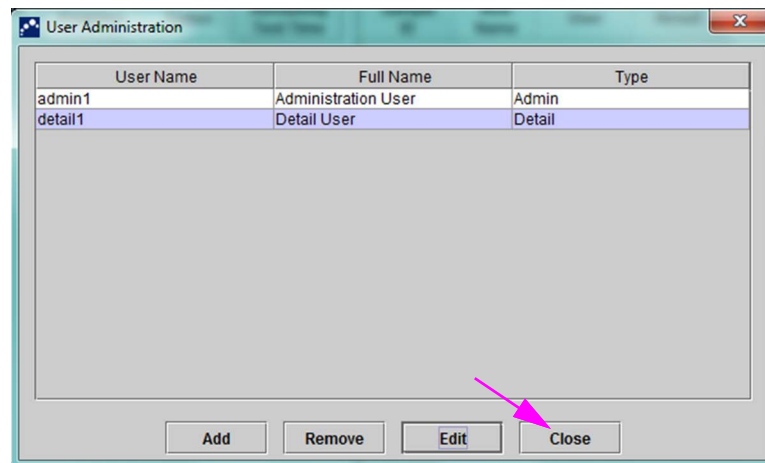

Figure 2-56. User Admin Dialog Box after User Removal
1. In the GeneXpert Dx System window (see Figure 2-38), on the **Setup** menu, click **User Administration**. The User Administration dialog box appears. See Figure 2-56.